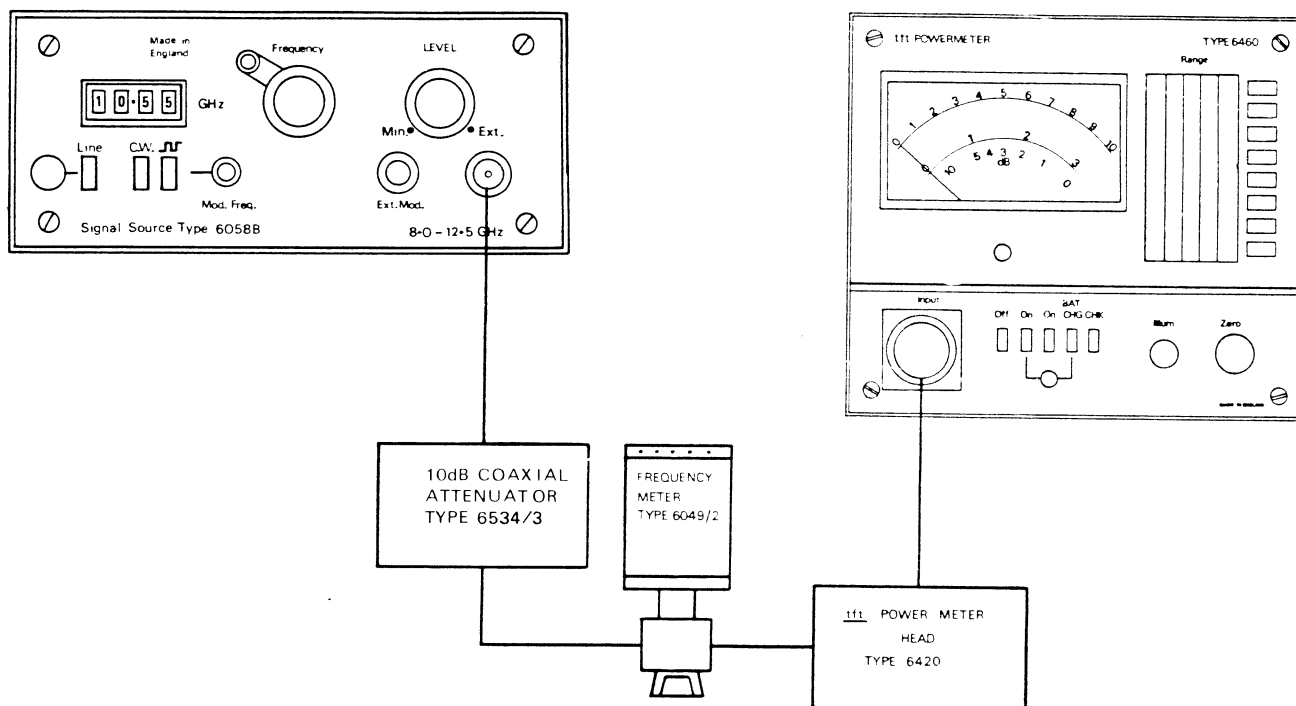

Fig. 10 Frequency Calibration Circuit
- 2) Connect up the system shown in Fig. 10 using the equipment shown in the Table. Set the wavemeter to 10.00 GHz and the powermeter to the 10 mW f.s.d. range.